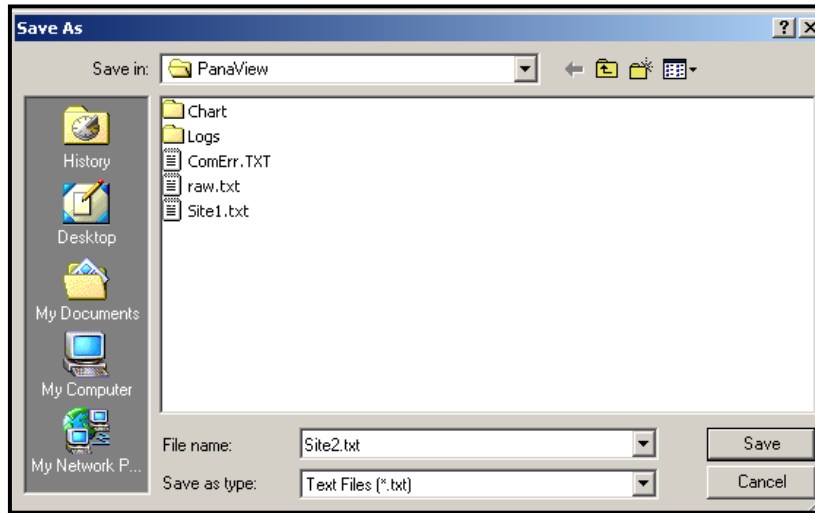

Figure 29: Save As Window
To save the raw signal, click *Save*. A window opens similar to the one shown in Figure 29 below. Enter the desired name, and click *Save* to save the signal as a text file.
2. Click *Save Site to PC*. A window opens similar to Figure 29 on page 99.